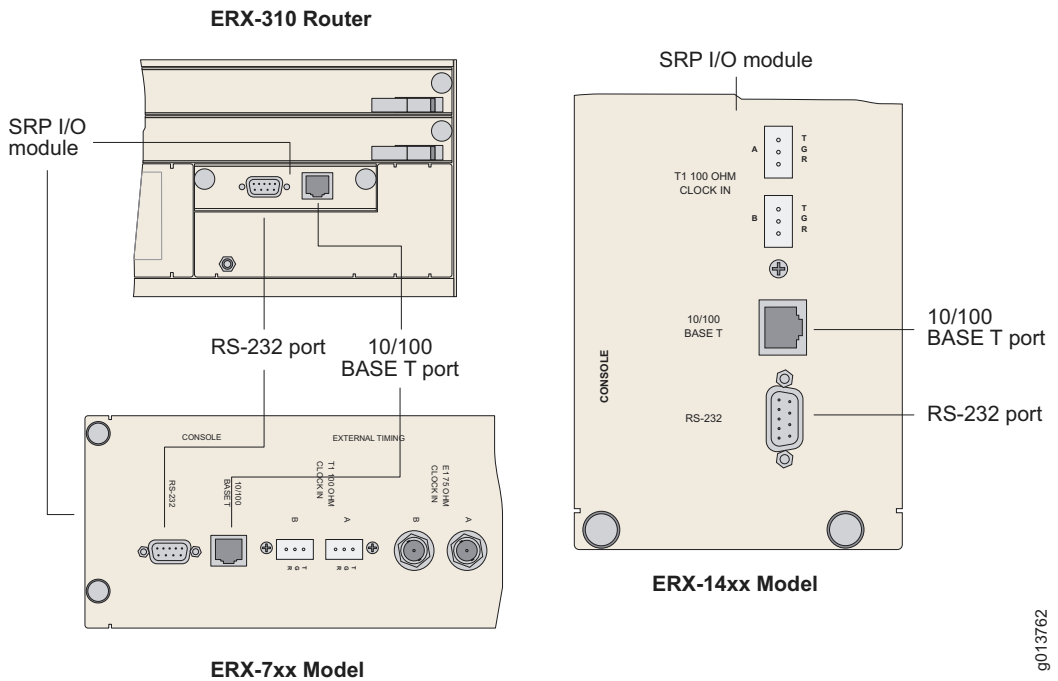

Figure 8-1 E-series routers management ports
- 1 Connect the female DB-9 connector to the RS-232 port on the system's SRP I/O module. See Figure 8-1.